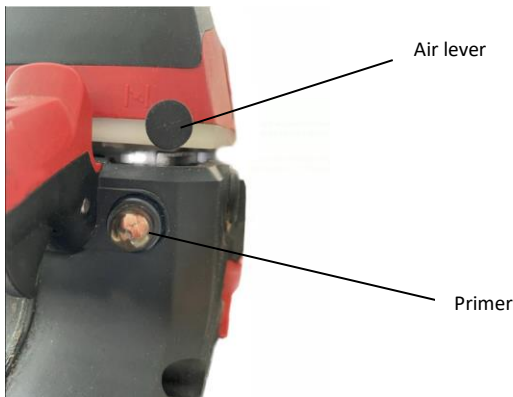

Fig. 5
3. Pull the air lever (Fig. 5) upwards in closed mode **N**.
4. Press the primer (Fig. 5) four or five times to allow the mixture to get to the carburetor.